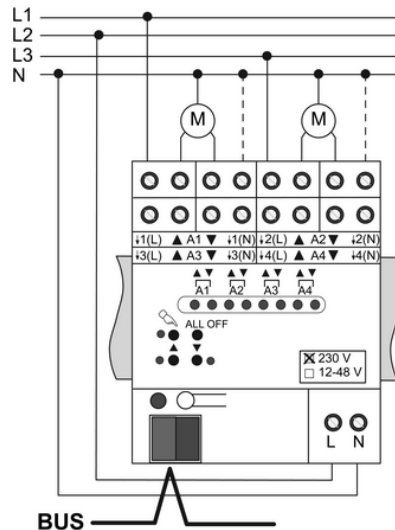

Figure 5
- Connect bus cable with connecting terminal (figure 5).
- Connect mains voltage supply (figure 5).
The associated N conductors are connected for the outputs in question (Figure 5).